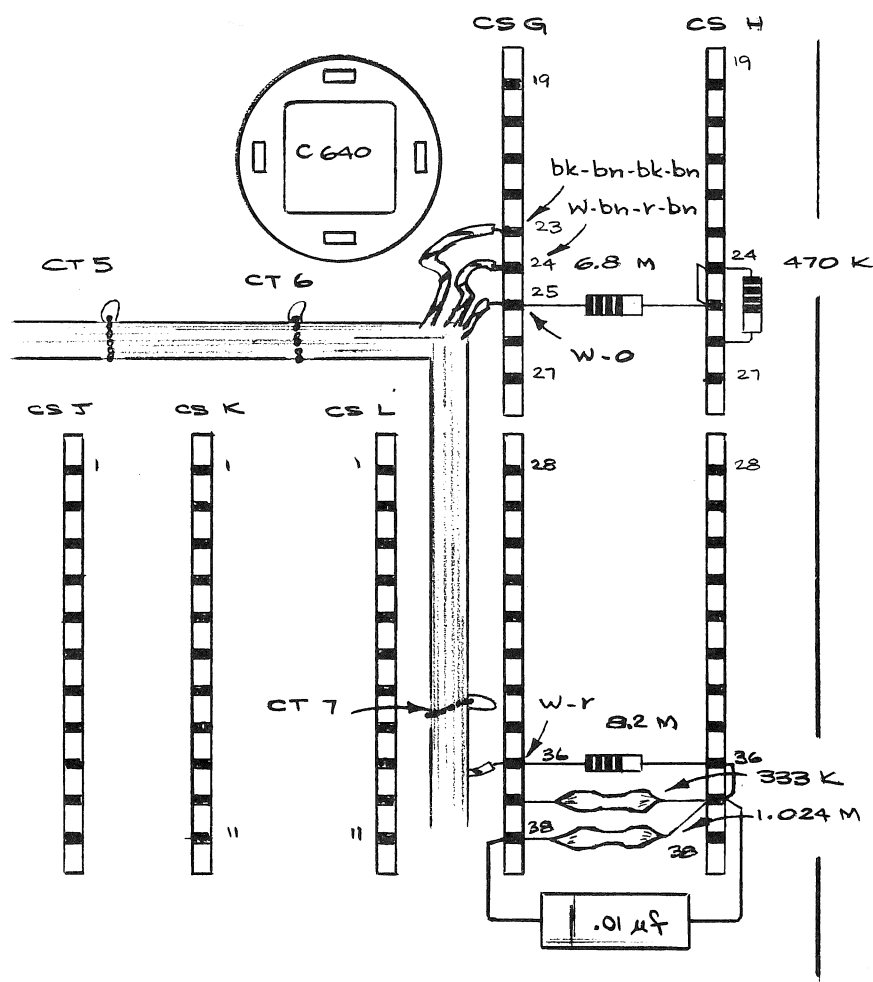

FIG. 6
1. Remove the following components and wires (see Fig. 6 for ceramic strip locations):
2. Install the following components and wires, as indicated in Fig. 6:
1. Remove the following components and wires (see Fig.6 for ceramic strip locations).
3. Install the following components and wires, as indicated in Fig.6: